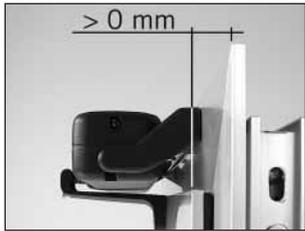

Fig. 1
- Check that once the actuator has been installed the distance between the fixed part of the window frame (where the actuator will be mounted) and the moveable part of the window frame (where the bracket will be mounted) is more than 0 mm (Fig. 1). If the distance is not more than this figure, the actuator will not be able to complete its function, as the window will not be able to close properly. A wedge should be placed under the support brackets to redress the balance.